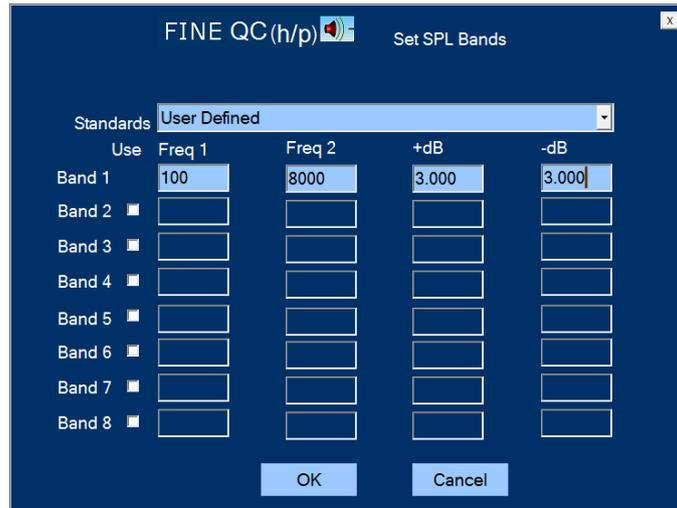
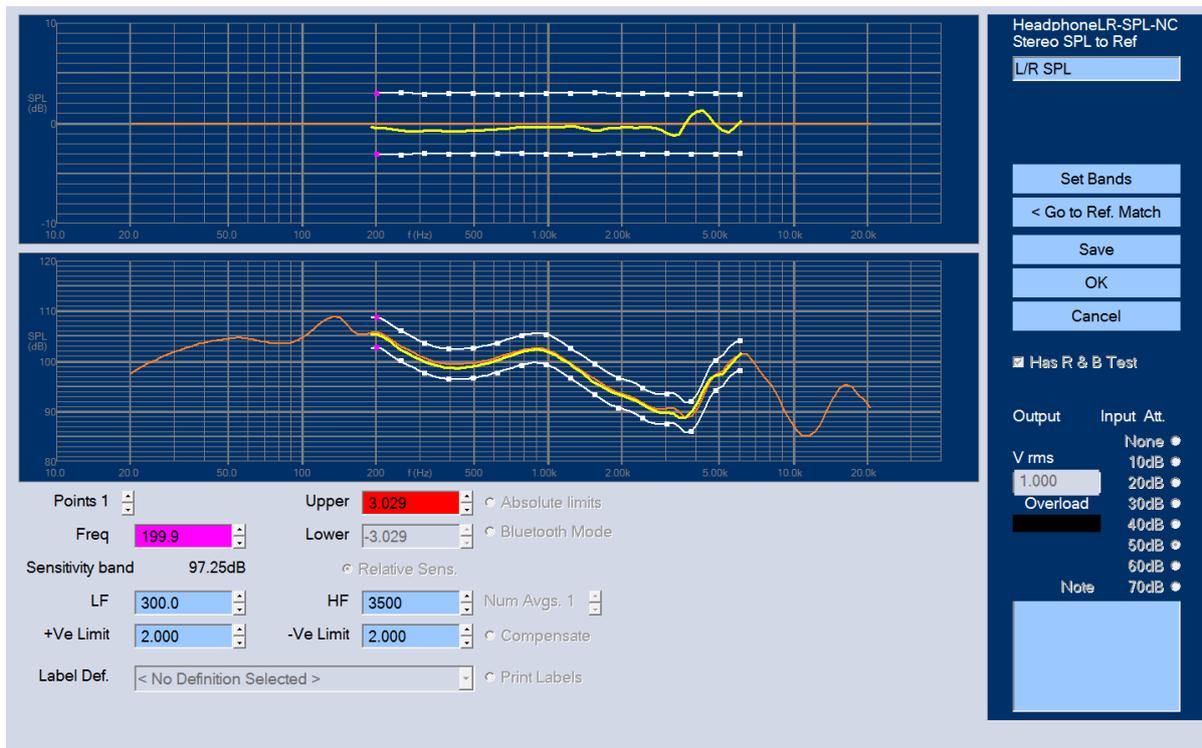

Figure 12 - Set (Frequency) Bands
Figure 13 - Left-Right Difference L-R
Here is chosen one frequency band from 100 – 8000 Hz +/- 3dB (Figure 12), which produced the red limit lines 3dB offset from the orange reference curve shown in Figure 13 on page 13. The yellow response is the Right (R) channel in the same display.